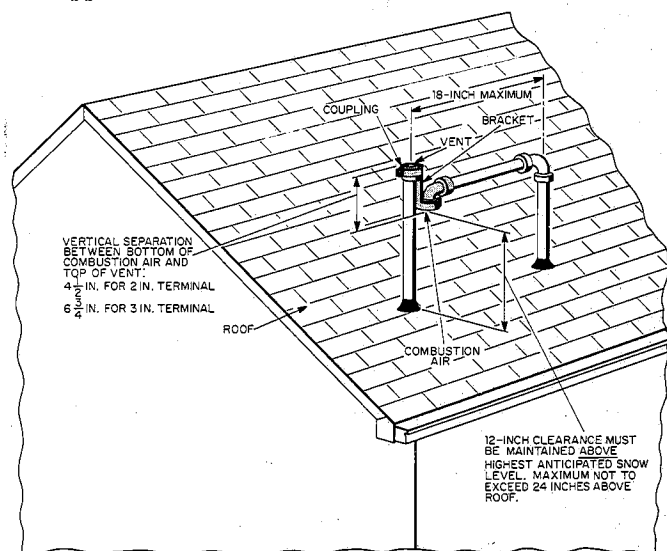

Fig. 2—Rooftop Termination
See Table 3 for maximum allowable pipe lengths and Figs. 2 through 7 for piping arrangements.
All combustion-air and vent pipes must be airtight and watertight. The pipes must also terminate exactly as shown in Figs. 2 through 7.
The combustion-air and vent pipes must terminate outside the structure. A factory-supplied termination kit must be installed as in one of the installations shown in Figs. 2 through 7. Roof termination is preferred. See Fig. 2. Two terminal kits are available. The 2-in. kit is for 1-1/2-in. and 2-in. diameter pipe systems. The 3-in. kit is for 2-1/2-in. and 3-in. diameter pipe systems. Each kit will have extra parts. See Figs. 2 through 7 for the different applications.
The shaded parts in Figs. 2 through 7 are provided in the termination kit; therefore, do not count them when determining the pipe diameter.
- Rooftop terminal installation. See Figs. 2 and 3.
- Loosely install pipe coupling, provided in kit, on properly cut vent pipe. The position of the coupling must be so that the bracket will mount as shown in Fig. 2.
- Install bracket as shown in Fig. 2.